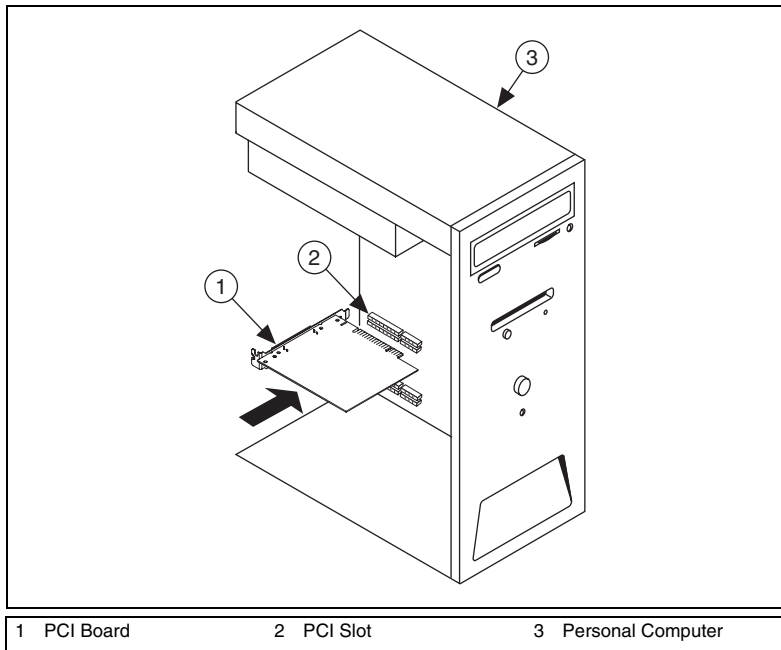

Figure 1. Installing the PCI-GPIB and NI PCIe-GPIB (PCI-GPIB Shown)
7. Insert the GPIB board into the slot with the GPIB connector sticking out of the opening on the back panel, as shown in Figure 1. It might be a tight fit, but do *not* force the board into place.